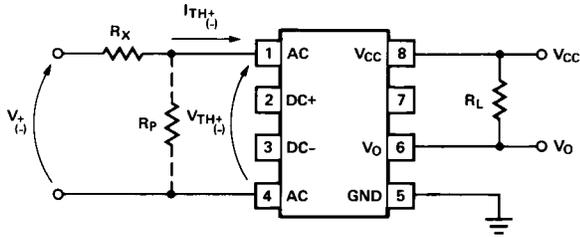

Figure 13. External threshold voltage level selection.
The HCPL-0370/3700/3760 optocouplers have internal temperature compensated, predictable voltage and current threshold points which allow selection of an external resistor,  $R_X$ , to determine larger external threshold voltage levels. For a desired external threshold voltage,  $V_{\pm}$ , a corresponding typical value of  $R_X$  can be obtained from Figure 12. Specific calculation of  $R_X$  can be obtained from Equation (1). Specification of both  $V_+$  and  $V_-$  voltage threshold levels simultaneously can be obtained by the use of  $R_X$  and  $R_P$  as shown in Figure 13 and determined by Equations (2) and (3).